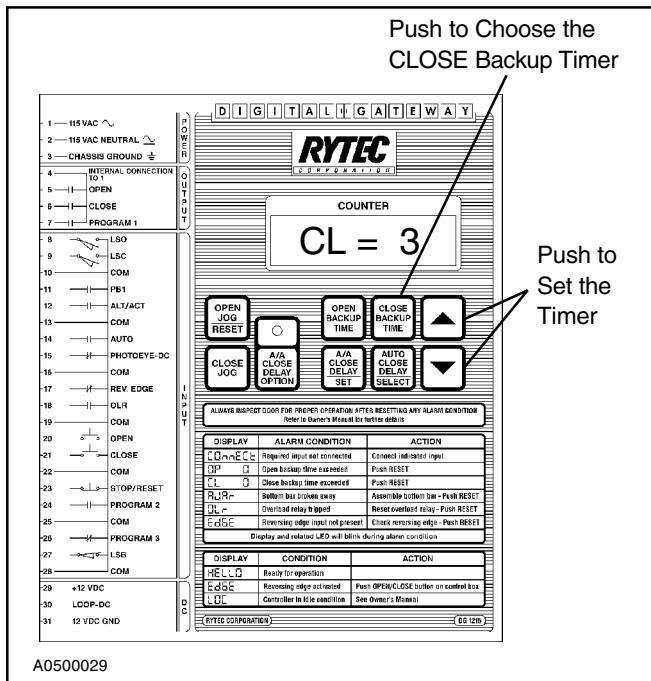

Figure 6
2. Use the UP and DOWN arrow keys to raise or lower the setting. Releasing the arrow key will put the new setting into memory. The display will show that setting for 4 seconds or until another button is pushed. Figure 6 shows the setting of the Close Delay backup timer.